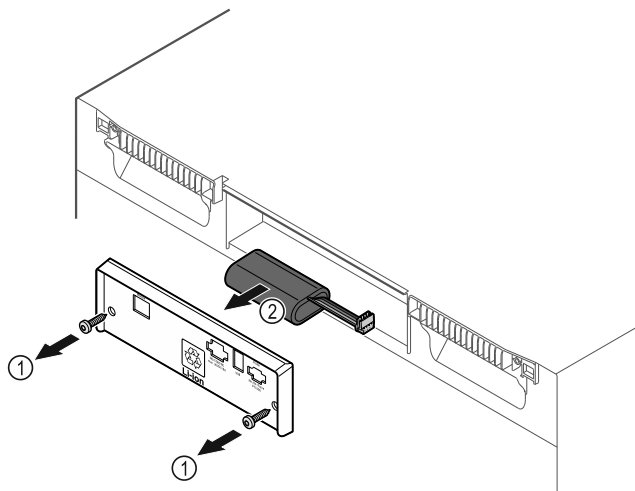

Fig. 151
- ▶ Unscrew screws and remove cover from the back of the appliance Fig. 151 (1).
- ▶ Disconnect and remove battery Fig. 151 (2).